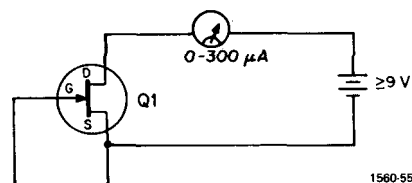

Figure 4-14. Circuit for the determination of the IDSS value of Q1.
**Early Q1 Configuration.** In early production units, Q1 was a type 2N3457 that required careful selection of bias resistors for proper operation. If it is replaced, resistors R5 and R8 must be selected according to the IDSS value of Q1, the value of the current through the drain when the source is shorted to the gate. Determine the IDSS value by using the circuit of Figure 4-14. Then select Allen Bradley 1/8-W, 5% resistors as shown by Table 4-7.